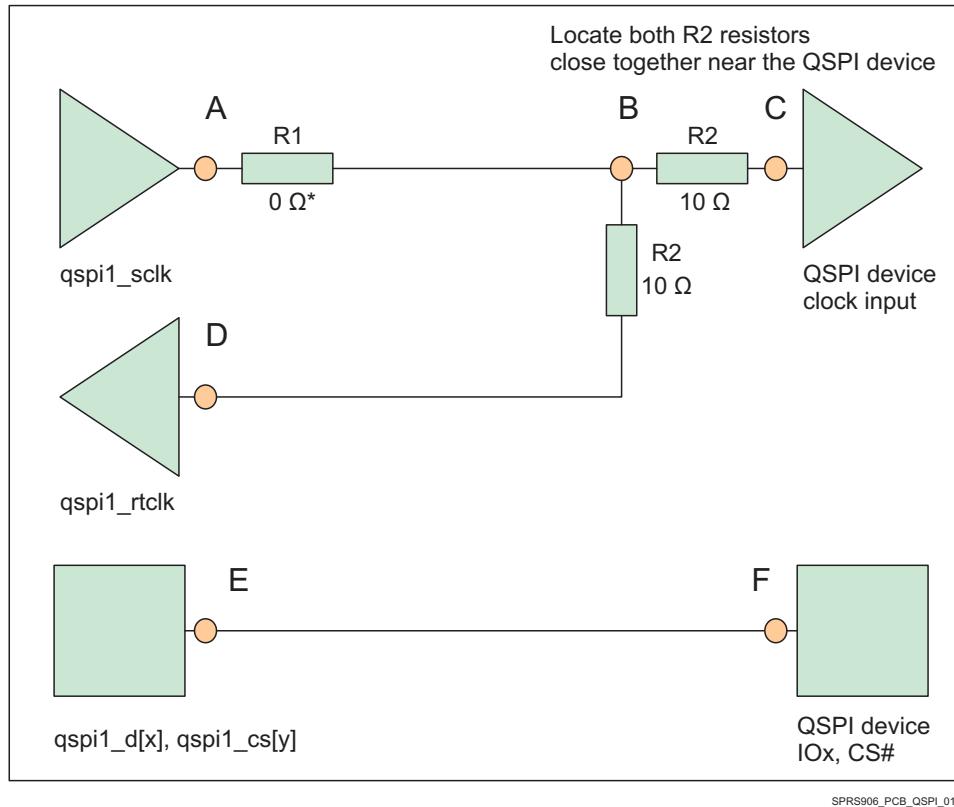

Figure 7-30. QSPI Interface High Level Schematic
- 50 Ω PCB routing is recommended along with series terminations, as shown in Figure 7-30.